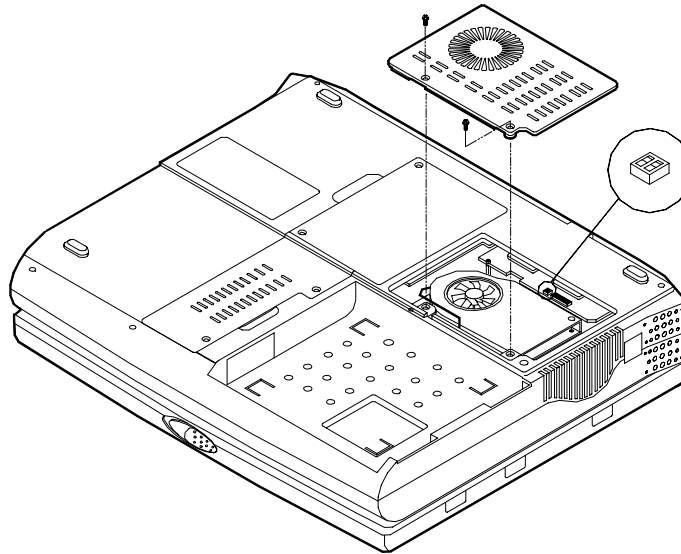

Figure 2-5
3. Remove the CPU cover. Use the 2-pole DIP Switch to set the configuration (Figure 2-5).